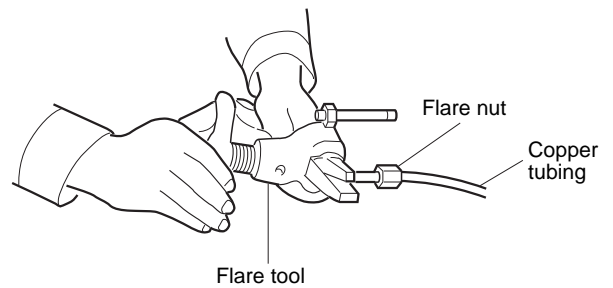

Fig. 10-3
- (3) Remove the flare nut from the unit and mount it on the copper tube.
- (4) Make a flare at the end of copper tube with a flare tool.* (Fig. 10-3)